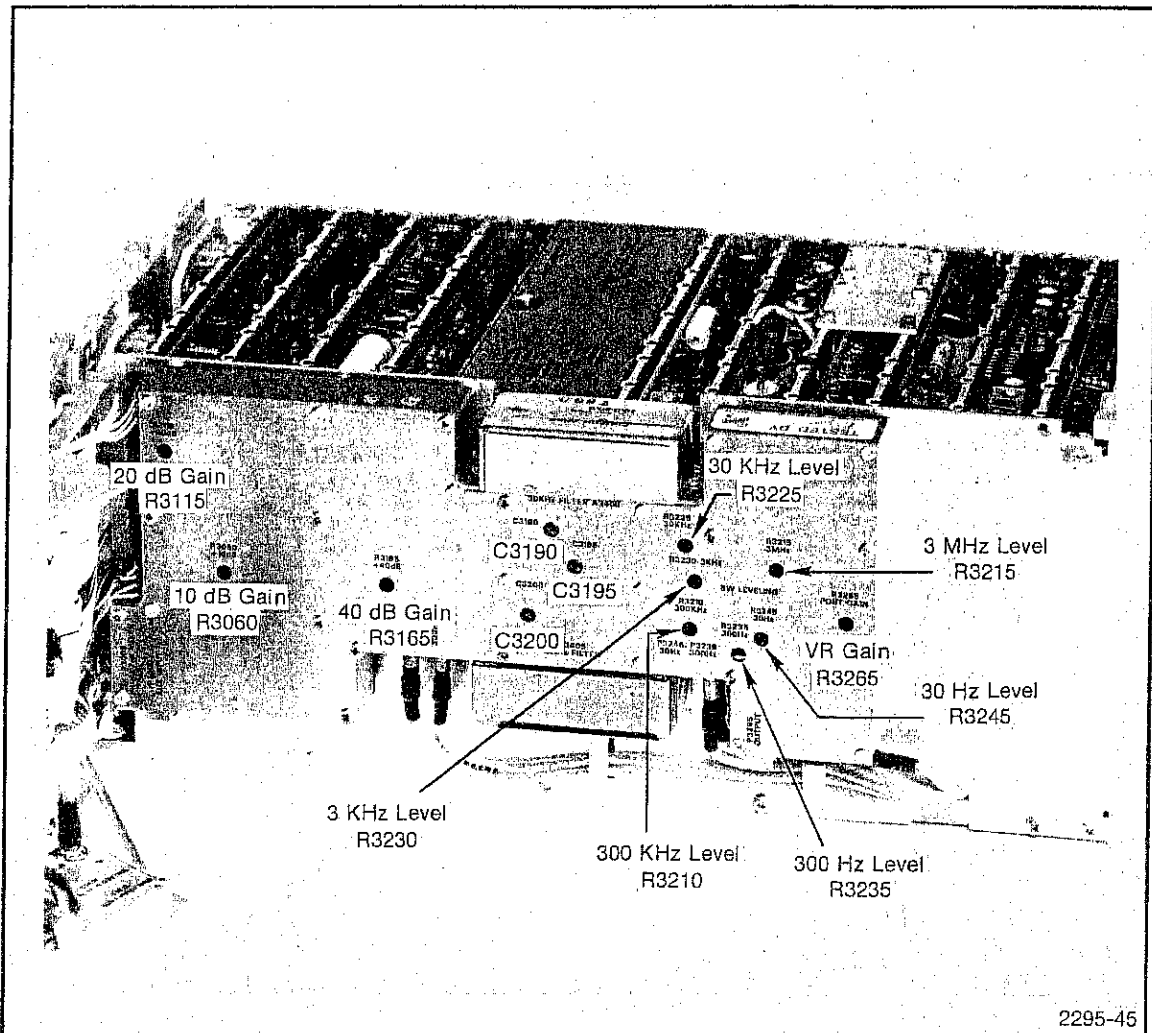
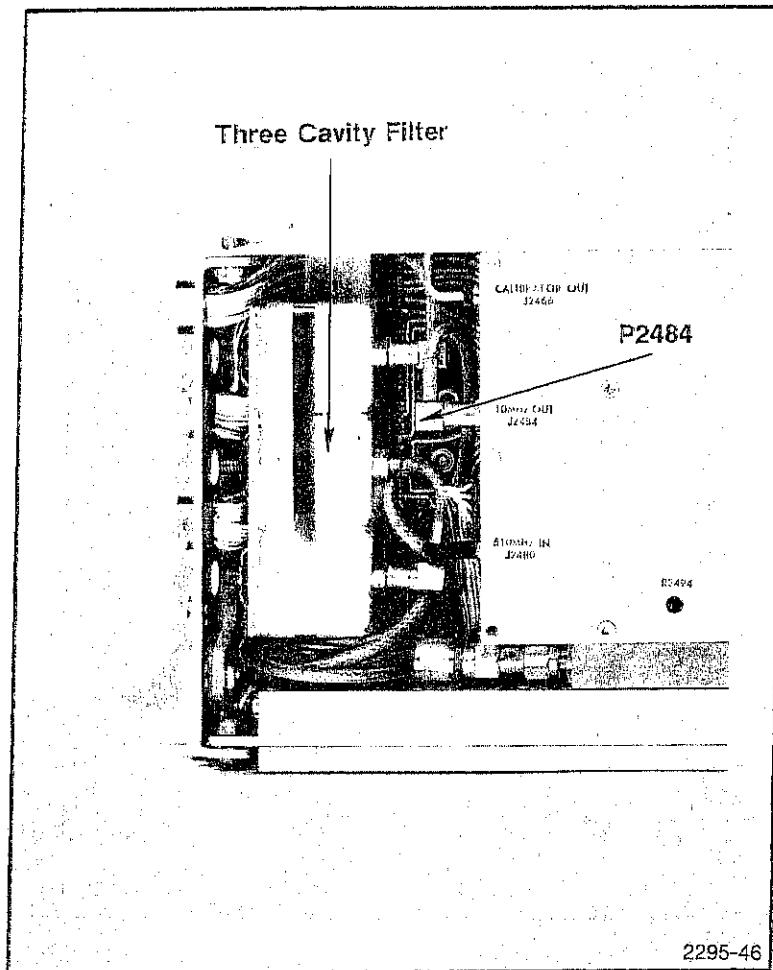

Fig. 4-37. Location of Connectors and Adjustments used When Calibrating the VR Circuits.
Fig. 4-38. Location of P2484 and 3-Cavity Filter.
d. Set the 30 Hz Level, R3245 (Fig. 4-37), about 10° from the full clockwise position and set R3235, 300 Hz Gain, to mid-range.
e. Adjust the frequency of the signal generator for maximum indication on the power meter, then adjust VR Gain R3265 (see Fig. 4-37) for 0 dBm reading on the power meter.
h. Disconnect P2484 (10 MHz Output on the 2nd Mixer assembly, see Fig. 4-38), then apply 10 MHz, -30 dBm signal from the signal generator through a 10 dB step attenuator and bnc-to-Sealectro adapter, to P2484.
j. Adjust the generator output gain for a display amplitude of seven (7) divisions. This will be the VR reference level for the other bandwidth selections.
k. Switch the RESOLUTION BANDWIDTH to 300 Hz and adjust the filter output gain, with 300 Hz Level R3235, (see Fig. 4-37), so the amplitude of the display equals the reference level established in part j.
l. Adjust the output of the remaining resolution bandwidth filters to the reference level with the following level adjustments (see Fig. 4-37):
n. Adjust 10 dB Gain R3060 (see Fig. 4-37) for a calibrated 10 dB of gain increase.
p. Adjust 20 dB Gain R3115 (see Fig. 4-37) for a calibrated 20 dB of gain increase.
r. Adjust 40 dB Gain R3165 (see Fig. 4-37) for a gain increase of 80 dB.